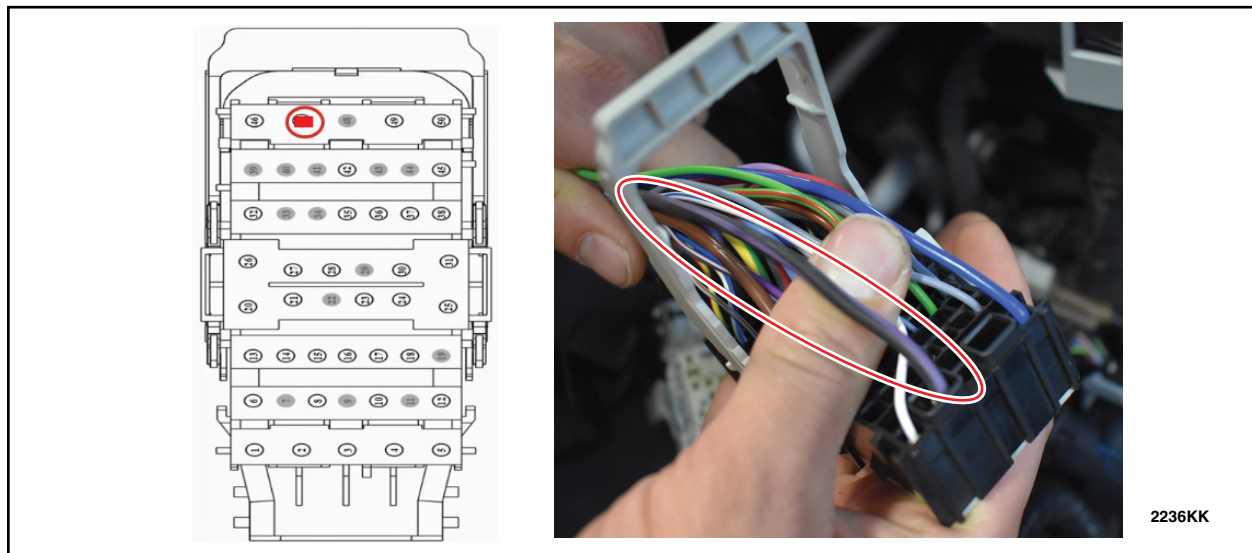

FIGURE 42
49. In connector C1035B identify cavity 47 which contains a black-violet wire. See Figure 42.